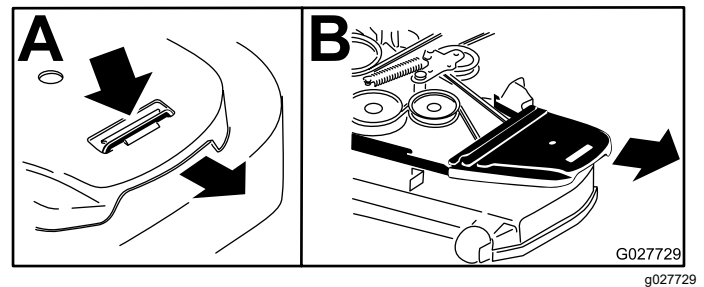

Figure 82
4. Remove the belt covers (Figure 82).